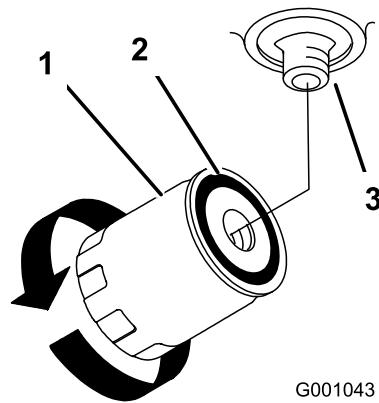

Figure 64
3. Apply a thin coat hydro fluid to the rubber gasket on the replacement filter (Figure 64).
7. Fill the hydraulic tank with hydraulic fluid until the fluid overflows the filter and then turn the oil filter clockwise until the rubber gasket contacts the filter adapter, then tighten the filter an additional 1/2 turn (Figure 64).